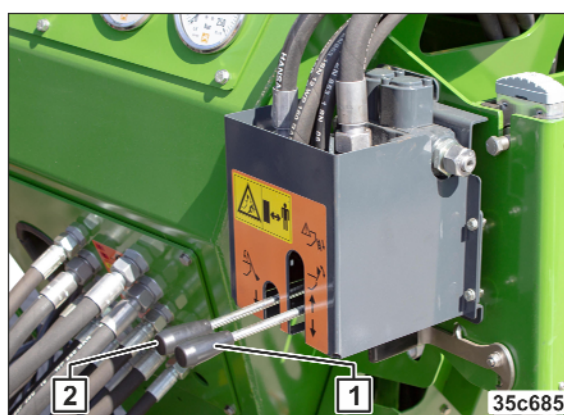

Fig. 213
2. Actuate the control unit (Fig. 213/1).
17. Actuate the control unit (see Fig. 213/1) and fold the filling auger into transport position.